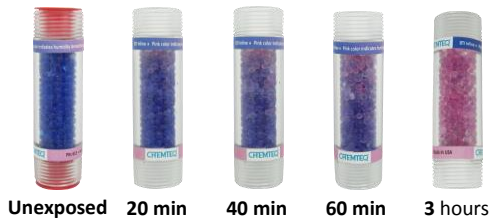

Figure 1: Exposures to 15µg/cm³ water vapor
- e. Color change: See figure 1
- g. Replace filter when the Breakthrough Indicator changes color to pink (Figure 1).